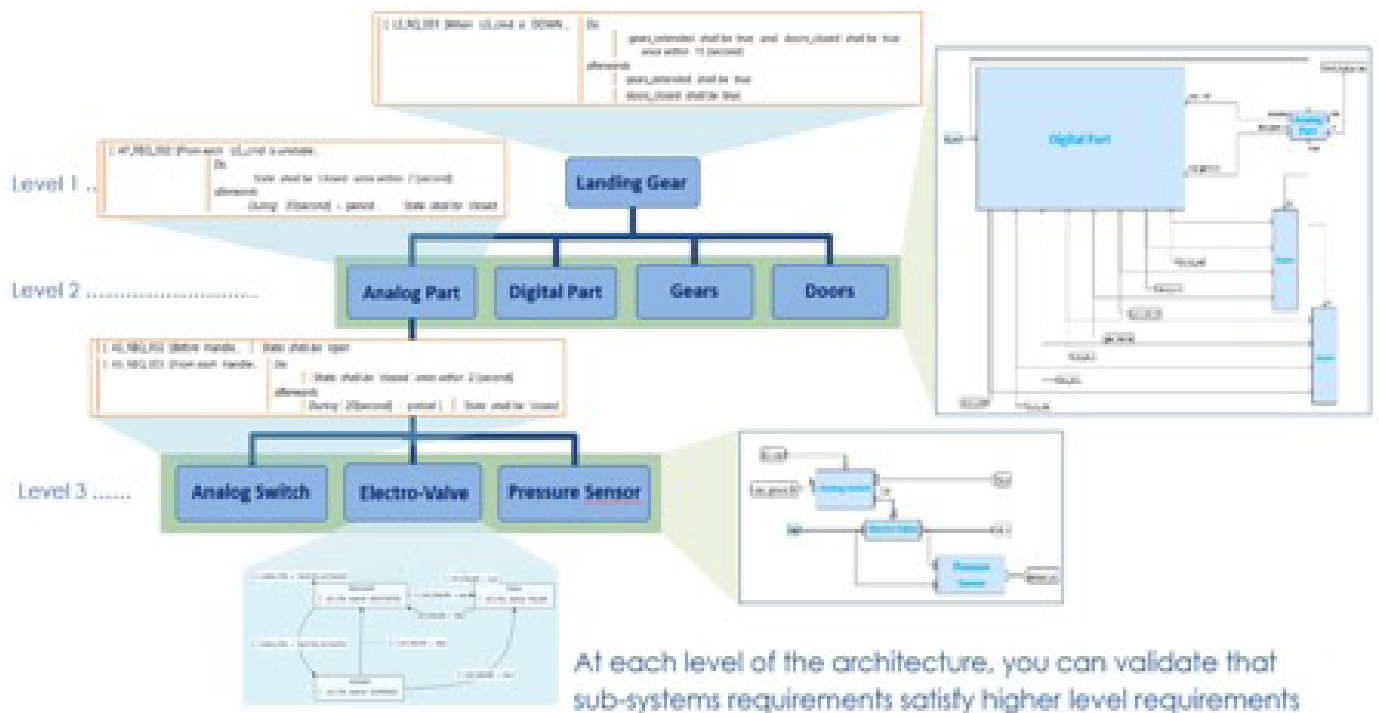

Figure 3: STIMULUS prcess model
1. As illustrated in Figure 3, the STIMULUS model provides for the description of the system architecture and the interfaces between architecture components with a hierarchy of Block Diagrams. These can be linked to textual requirements and hierarchical state machines, which are used to describe the expected behaviour of these components. Structuring the architecture in this way means that, at each level of the architecture, it is possible to validate that sub-system requirements satisfy requirements at a higher level.